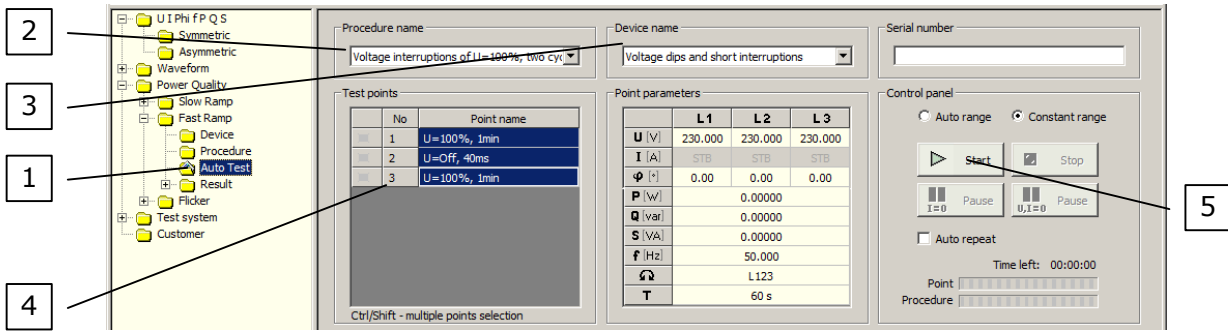
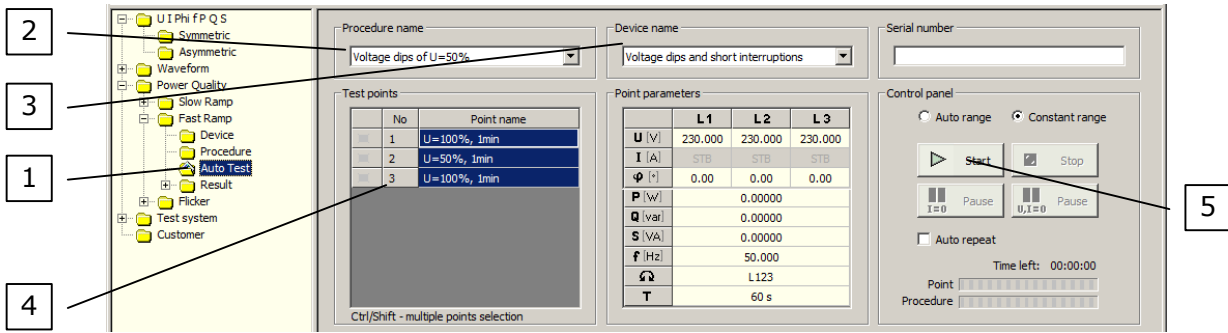

Fig.2.4. Autotest function with selected procedure points
Fig.3.4. Autotest function with selected procedure points
In Fig.2.4, 2.5 and 2.6 are presented *Autotest* function with selected procedure points, procedure in progress and finished procedure.
- a) press the *Autotest* of the *Power Quality / Fast Ramp* function (pos.1 Fig.2.4),
- b) choose a correct *Procedure name* (pos.2 Fig.2.4) and *Device name* (pos.3 Fig.2.4),
- c) select all *Test points* (pos.4 Fig.2.4) and press the *Start* button (pos.5 Fig.2.4).
In Fig.3.4, 3.5 and 3.6 are presented *Autotest* function with selected procedure points, procedure in progress and finished procedure.
- a) press the *Autotest* of the *Power Quality / Fast Ramp* function (pos.1 Fig.3.4),
- b) choose a correct *Procedure name* (pos.2 Fig.2.4) and *Device name* (pos.3 Fig.3.4),
- c) select all *Test points* (pos.4 Fig.3.4) and press the *Start* button (pos.5 Fig.3.4).